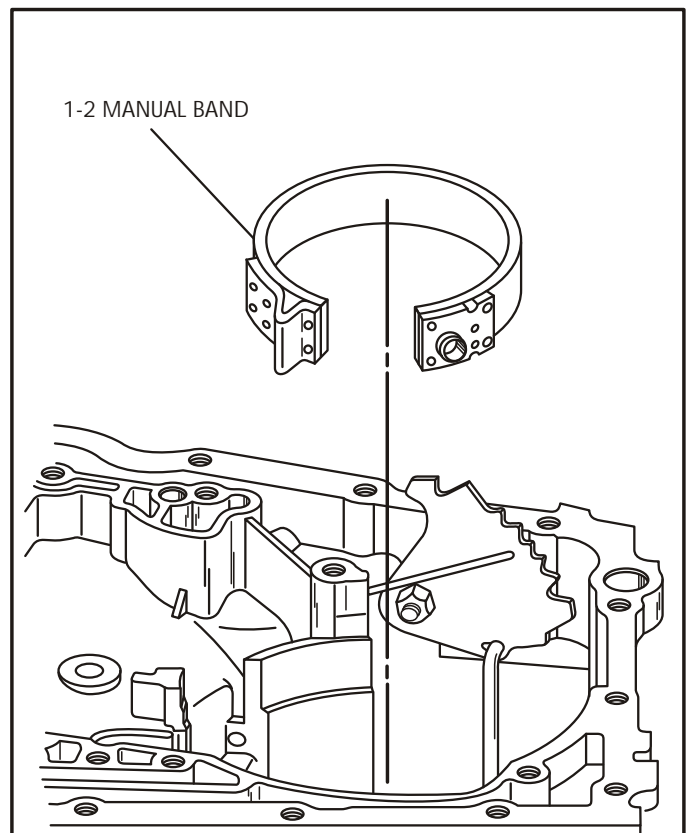

Figure 157
37. Install the 2-1 manual band into case ensuring that it is located on the band anchor pin. Refer to Figure 157.